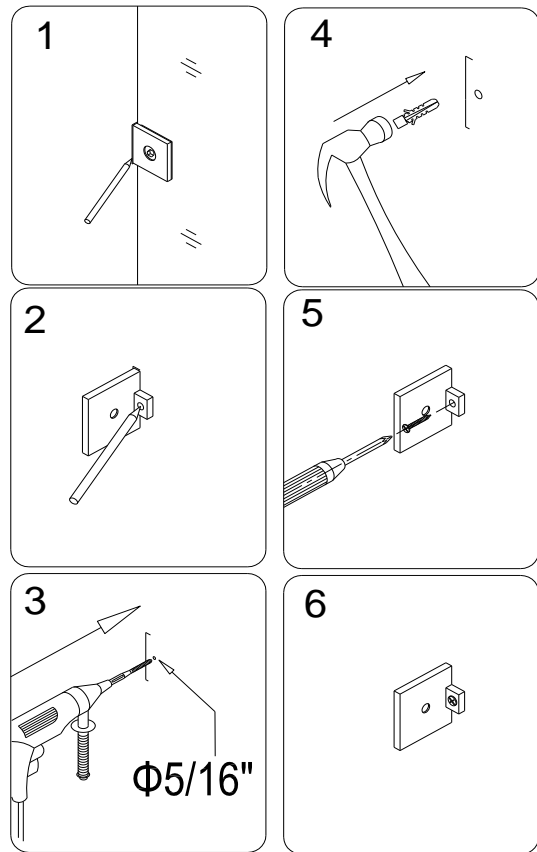

Fig. 6
c) Mark the bracket position. Detach the **Glass Brackets** from **Return glass panel**. Using brackets mark mounting holes for drilling (two on the wall and one on the floor), and then drill the holes. Insert **Small anchors 5/16" (18)**. Secure the wall mounting part of the brackets to the wall with **Screw ST4.2x30 (21)**. See fig. 6&7 for details.